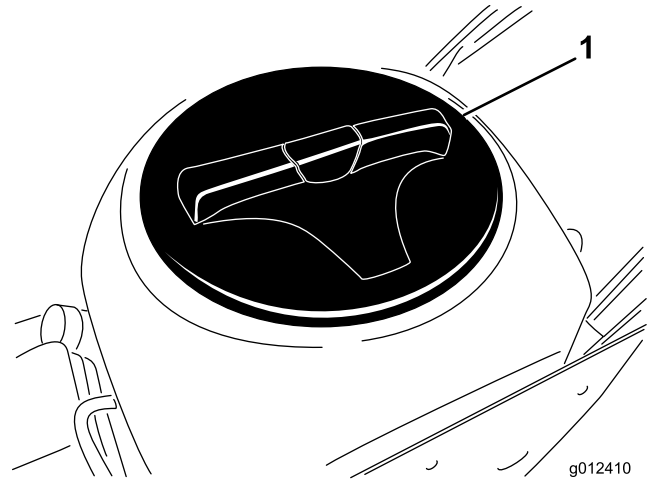

Figure 22
4. Remove the tank cover (Figure 22).